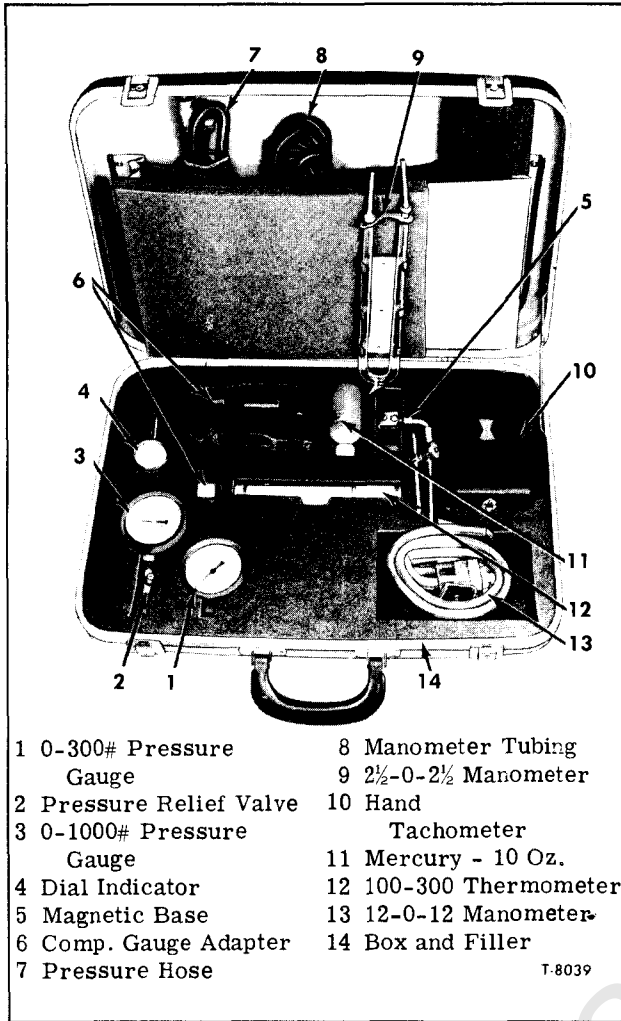
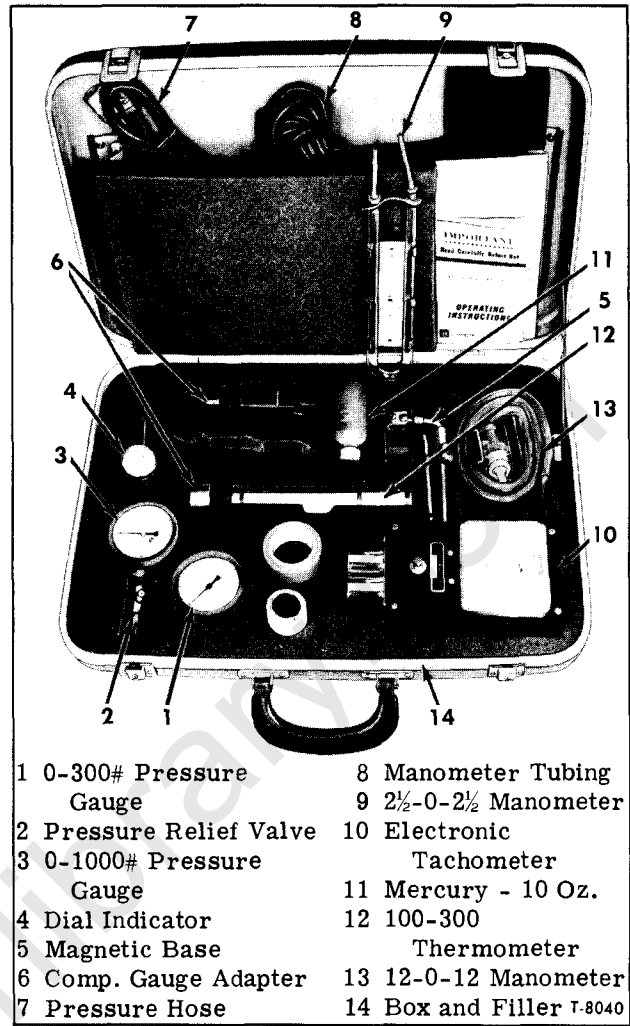

Figure 11—Test Kit J-7127 (Hand Tachometer)
Figure 12—Test Kit J-22475 (Electric Tachometer)
Figure 11 shows Test Kit (J-9531-01) with hand tachometer and figure 12 shows Test Kit (J-22506) with electric tachometer. Also, in these Diesel Test Kits are gauges, hoses, and adapters, for making various tests. The instructions on the following pages show the various tests and analysis which can be made.
3. Remove the injector and install the adapter and pressure gauge from Diagnosis Kit (J-9531-01 or J-22506) (fig. 11 or 12). Refer to ENGINE FUEL SYSTEM (SEC. 6M in Service Manual ST135-70, page 6M-26 for procedure to remove injectors.